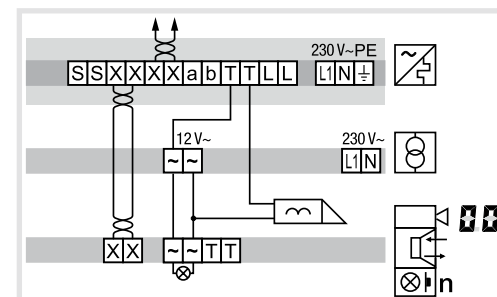

Figure 9: Connection of door station video with manipulation-protected door release
- For manipulation-protected installation, connect the door release to the contact of the line power supply (Figure 9).